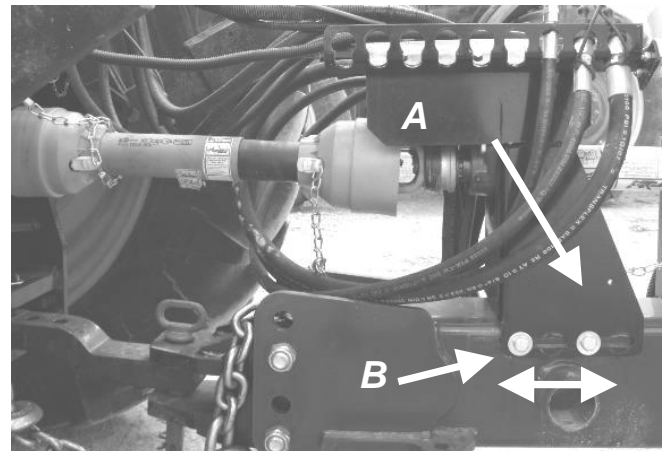

Figure 4
- Couple the PTO to the tractor shaft. If the tractor shaft is too long to fully retract when the tractor is turning, it is possible to slide PTO support on the tongue [Figure 4, A], loosen nuts [Figure 4, B] and move PTO support on tongue.